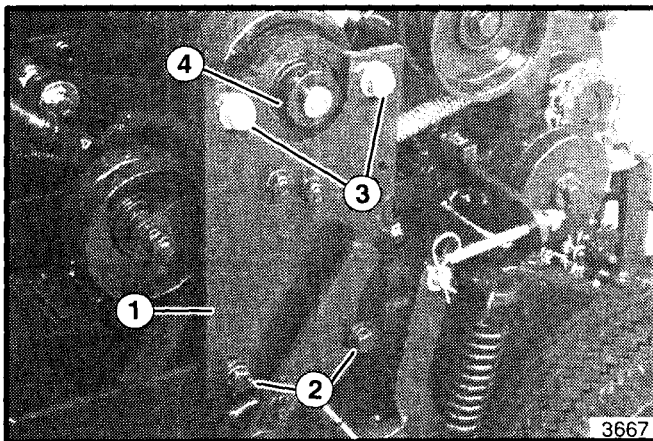

Figure 22. Mounting Plate And Coupler Bearing
14. Align the mounting plate so that it is perpendicular to the chassis and the pillow block bearing is centered on the coupler shaft. Tighten the two plate mounting screws at the bottom of the plate (see figure 22).
16. Tighten locking collar on engine coupler shaft. Rotate collar counterclockwise on pillow block shoulder. Using hammer and punch, lock collar into position. Tighten set screw in collar (see figure 22).